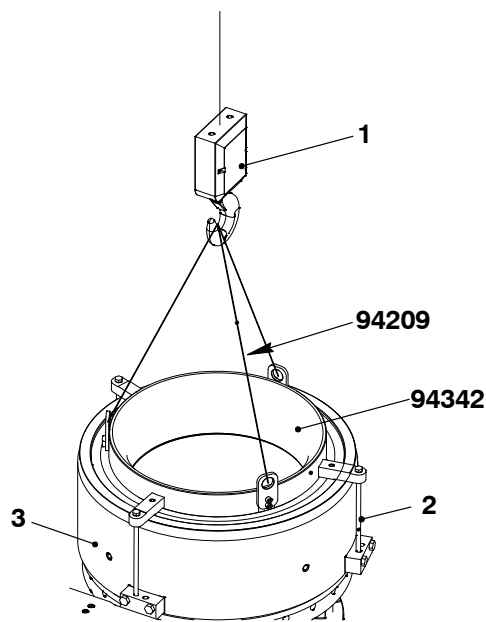

Fig. 12
- 6) Put oil on the surfaces of the positioner tool (94342, Fig. 12).
- 10) Operate the crane to put the positioner tool (94342) in position on the cylinder liner (3). Lock the tool in position with the three bolts (2).